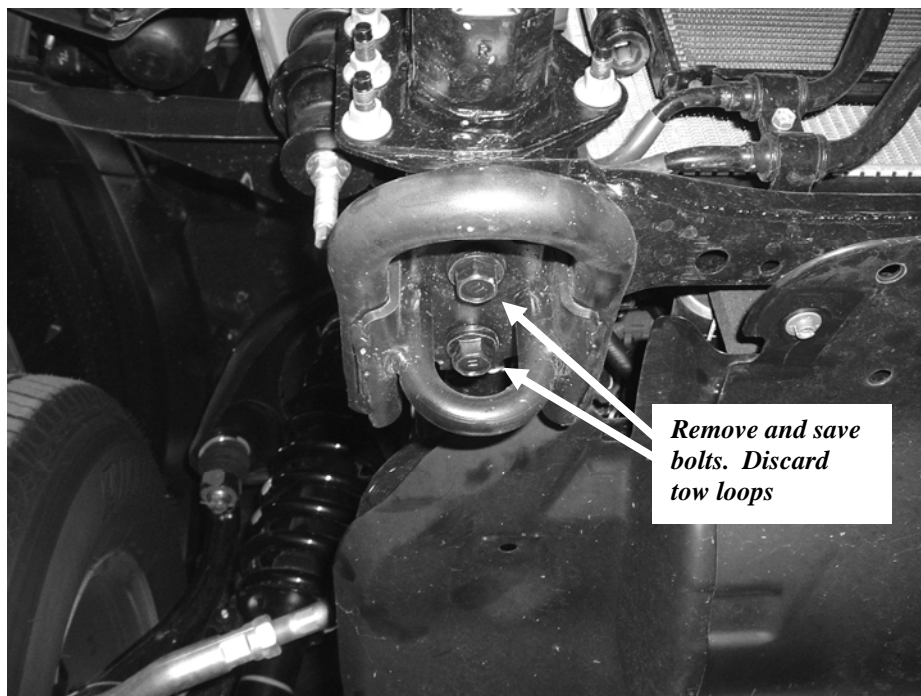

Figure 9 Tow loop RH
13. Remove the 12mm tow loop bolts and keep for re-use. Discard both tow loops. Warn Tow Hooks are supplied in this kit. **Figure 9**